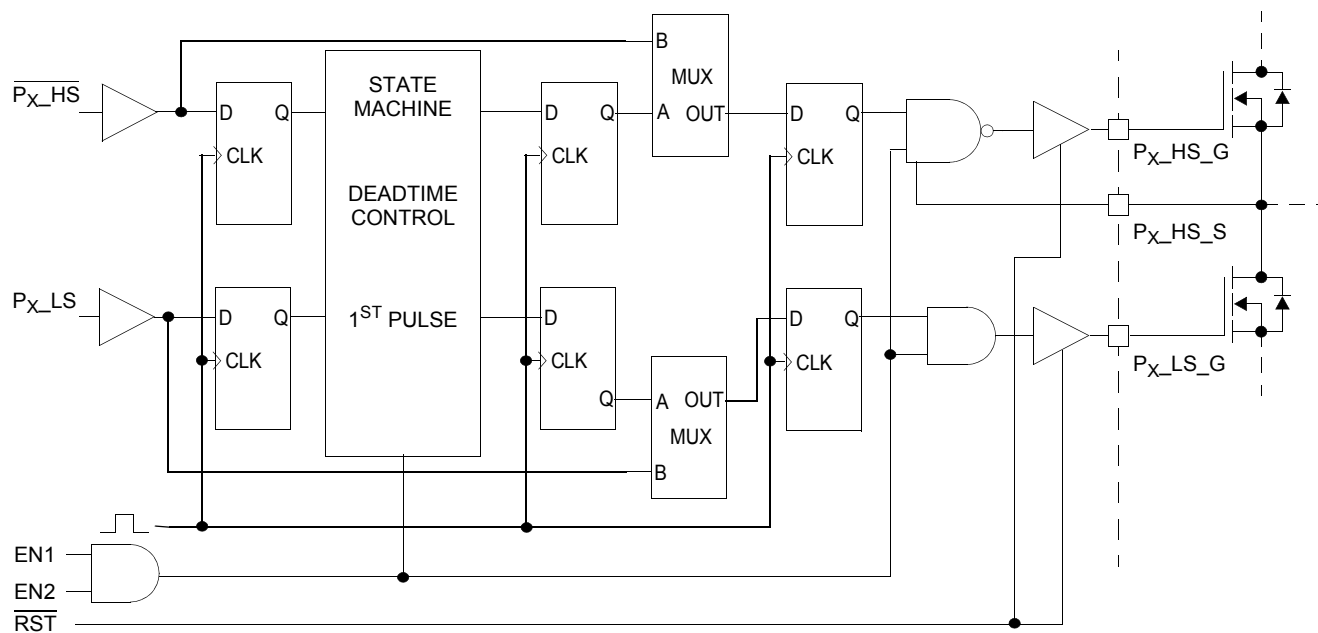

Figure 6. Deadtime control delays
42. These delays include all logic delays except deadtime. All internal logic is synchronous with the internal clock. The total delay includes one clock period for state machine decision block, an additional clock period for FULLON mux logic, input synchronization time and output driver propagation delay. Subtract one clock period for operation in FULLON mode which bypasses the state machine decision block. Synchronization time accounts for up to one clock period of variation. See Figure 6.